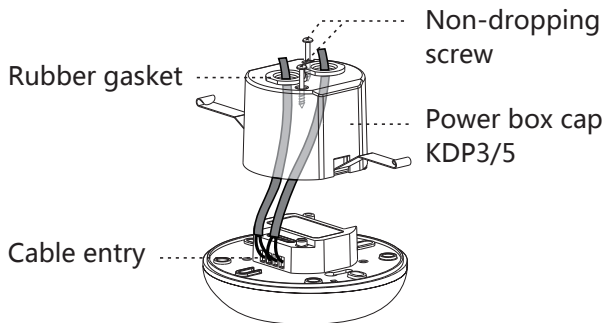

FIG.13
- Use screwdriver to break the rubber gasket on KDP3/5, then feed cables through it (See FIG.13).